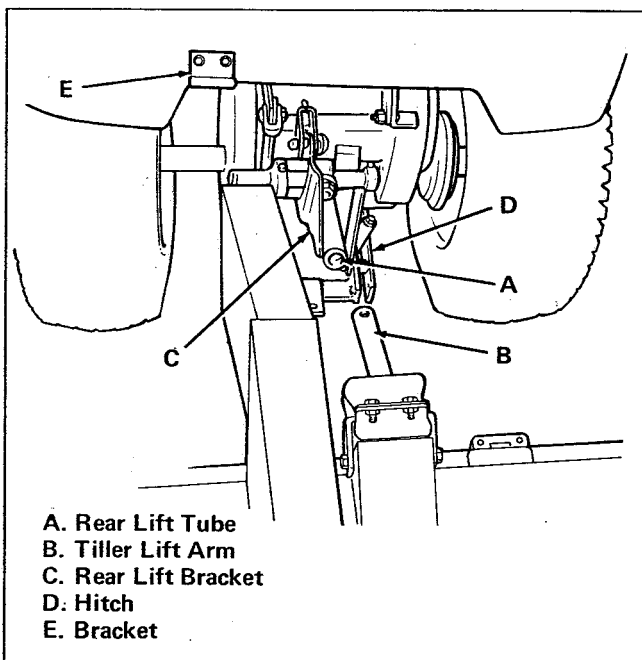

Figure 1. Position Tractor and Rotary Tiller
A bracket (item E, figure 1) and a special lift arm must be assembled onto the tractor before the rotary tiller can be installed. If your tractor is not equipped with a hydrostatic transmission, you also must replace the left-hand pull bar of the hitch (item D). The pull bar, lift arm, and bracket are supplied with the rotary tiller. See the Assembly Section of this manual for instructions.
1. Back tractor up to front of tiller so that rear lift kit tube (item A, figure 1) is in line with the tiller lift rod (item B).